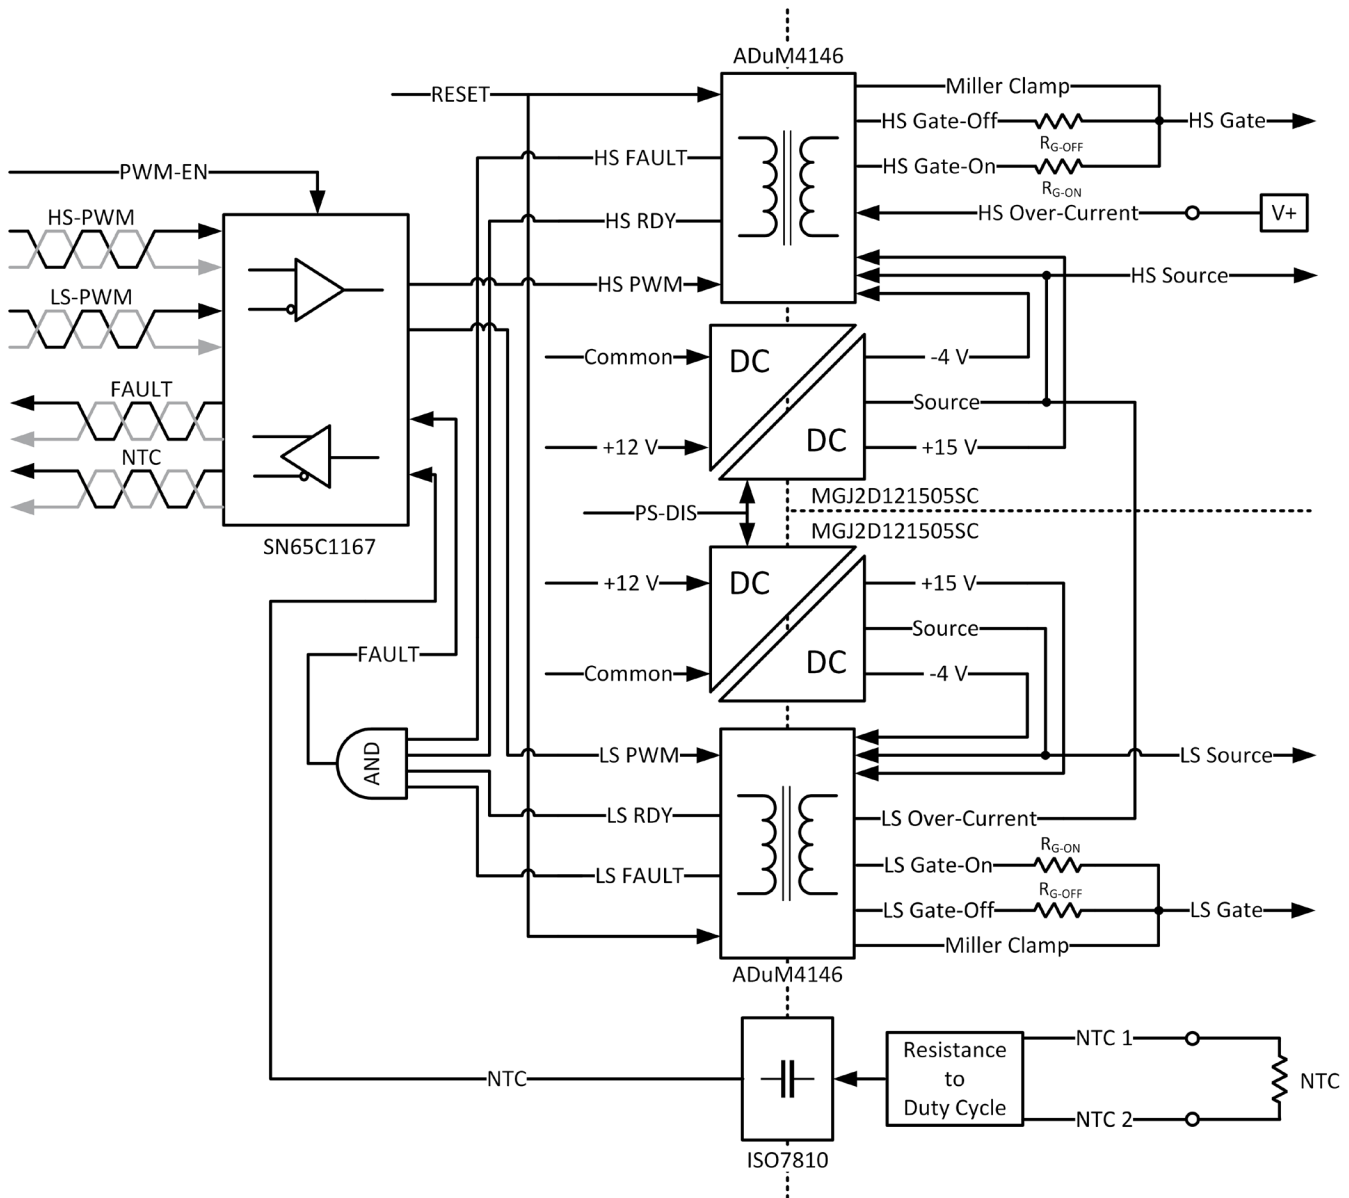
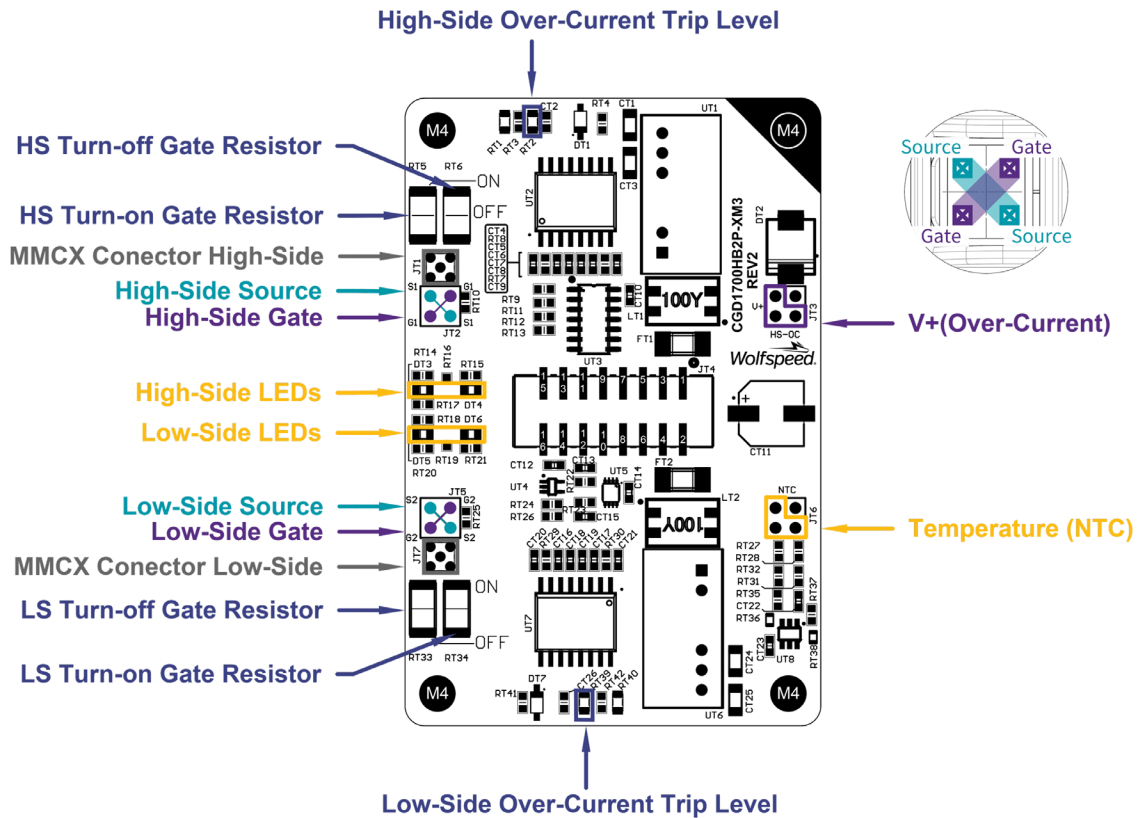

Figure 3: Block diagram of CGD1700HB2P-XM3 gate driver
Figure 4: Interface of CGD1700HB2P-XM3 gate driver
A block diagram of the full gate driver is shown in Figure 3. Both channels (high- and low-side) include a dedicated isolated DC/DC converter and gate driver integrated circuit (IC) for independent modulation of the respective channel. The gate driver communicates with a controller via differential signaling for both input and feedback signals. The gate driver combines all onboard fault signals (i.e. overcurrent and power faults for both channels) into a single global fault signal which is transmitted to the controller to indicate the board status. The board includes an overcurrent detection circuit, independent turn-on and turn-off resistors, Miller clamp, and thermistor feedback. Some notable interface features on the board are indicated in Figure 4.